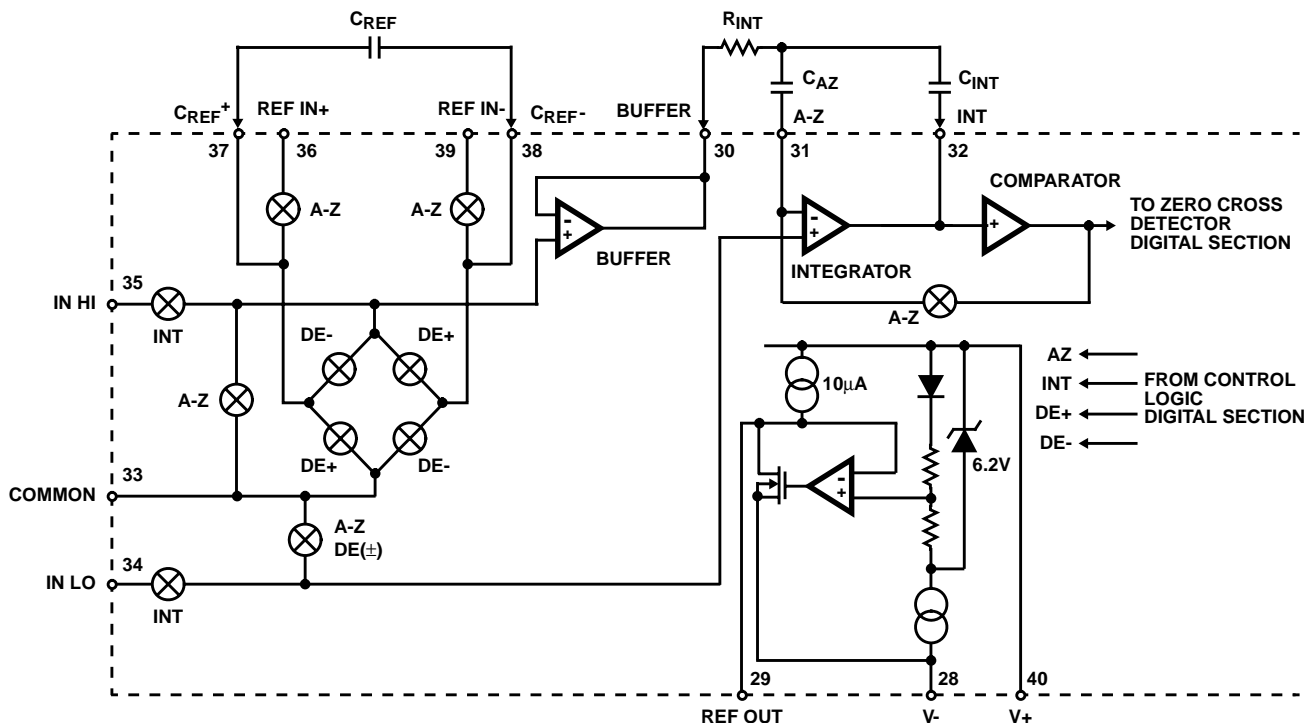
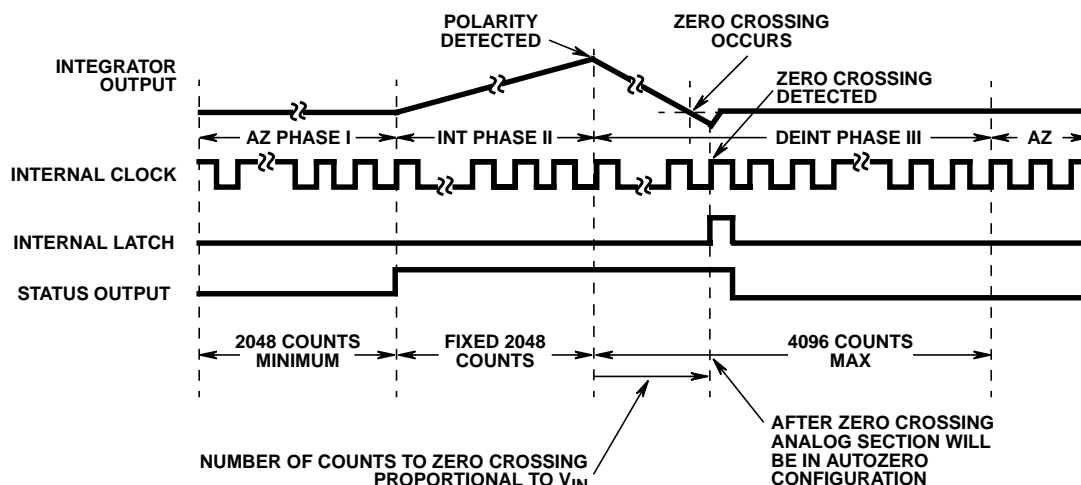

FIGURE 2. ANALOG SECTION OF ICL7109
FIGURE 3. CONVERSION TIMING (RUN/HOLD PIN HIGH)
Figure 2 shows the equivalent circuit of the Analog Section for the ICL7109. When the RUN/HOLD input is left open or connected to V+, the circuit will perform conversions at a rate determined by the clock frequency (8192 clock periods per cycle). Each measurement cycle is divided into three phases as shown in Figure 3. They are (1) auto-zero (A-Z), (2) signal integrate (INT) and (3) de-integrate (DE).
During a conversion cycle, the STATUS output goes high at the beginning of Signal Integrate (Phase II), and goes low one-half clock period after new data from the conversion has been stored in the output latches. See Figure 3 for of this timing. This signal may be used as a "data valid" flag (data never changes while STATUS is low) to drive interrupts, or for monitoring the status of the converter.
When the RUN/HOLD input is high, or left open, the circuit will continuously perform conversion cycles, updating the output latches after zero crossing during the Deintegrate (Phase III) portion of the conversion cycle (See Figure 3). In this mode of operation, the conversion cycle will be performed in 8192 clock periods, regardless of the resulting value.